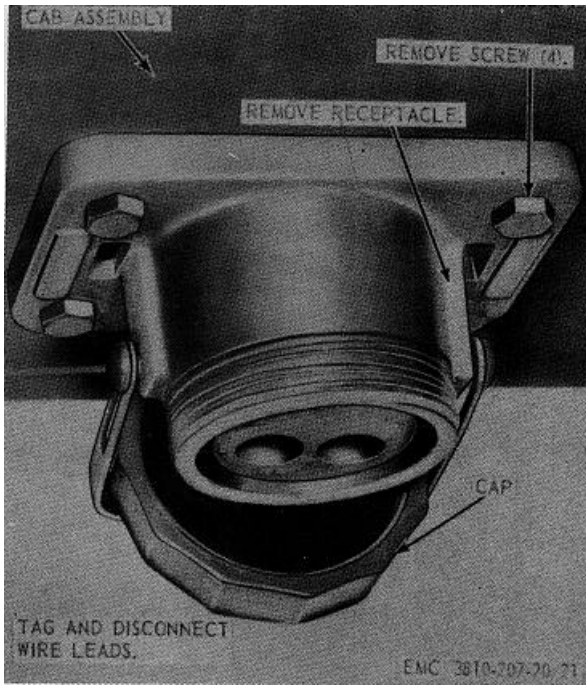

Figure 21. Slave receptacle, removal and installation.
a. Removal. Remove the slave receptacle as instructed on figure 21.
(1) Clean the slave receptacle with a cloth dampened with an approved cleaning solvent.
(2) Inspect the slave receptacle for breaks, frayed or broken leads, and other damage. Replace defective slave receptacle.
c. Installation. Install the slave receptacle as illustrated on figure 21.